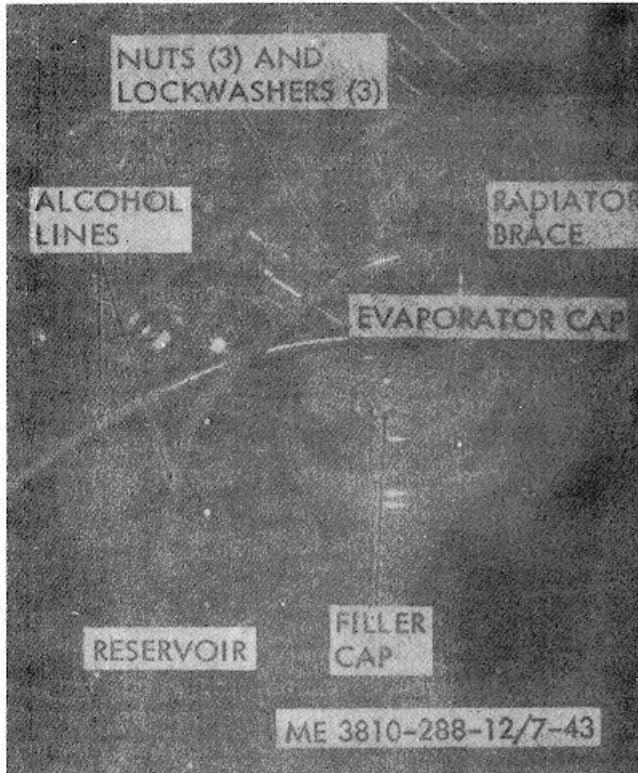

Figure 7-43. Alcohol evaporator, removal, repair, and replacement.
(1) *General.* The purpose of the alcohol evaporator is to permit vaporized alcohol to be drawn into the air brake piping. This vapor prevents any possibility of loss of braking action due to freezing of water vapor in the system components. The device consists of a casting which forms a support for the reservoir, as shown in figure 7-43. Ordinary methyl alcohol is used in the system. In operation, the compressor maintains a partial vacuum in the compressor intake manifold, and the line from the alcohol evaporator to the intake manifold also has a partial vacuum. This vacuum is the reason alcohol vapors enter the system.
(4) *Installation.* Refer to figure 7-43 and install the alcohol evaporator. Be sure lines to the evaporator are secure, and check to see that air bubbles can be seen passing through the evaporator when the compressor is compressing air. To do so, remove filler cap.